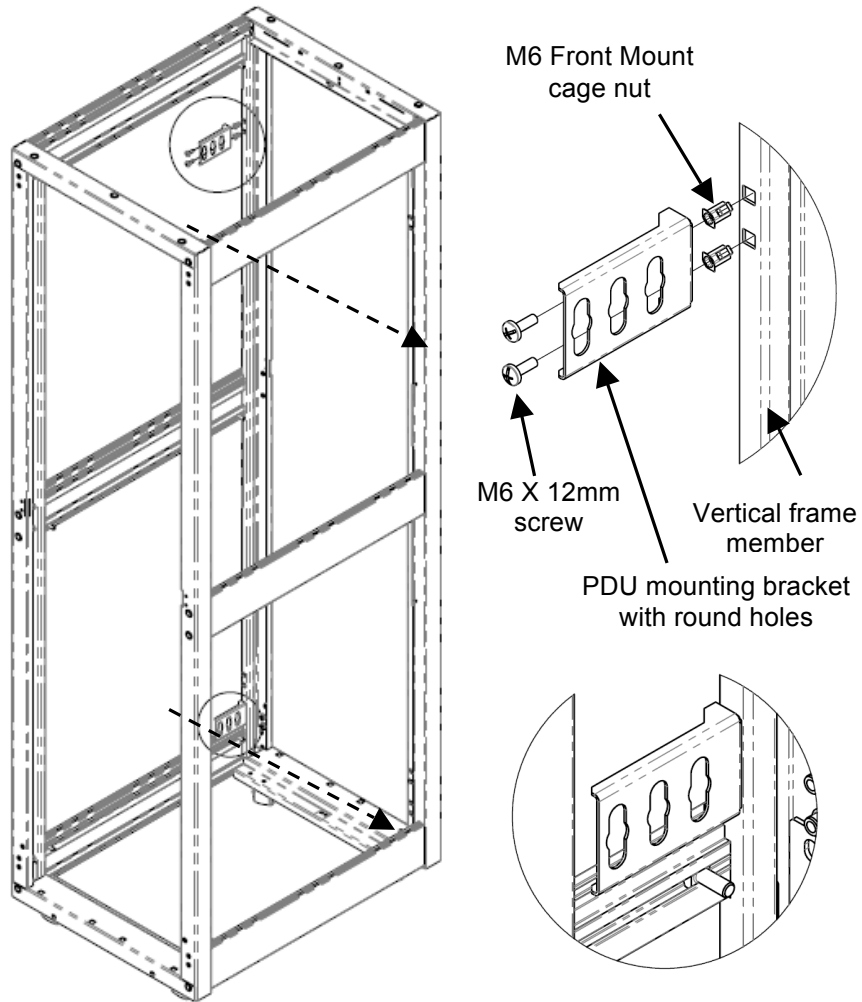

Fig. 2
Push cage nut into square hole, and rotate 1/8th turn to lock (see Fig. 2).
3. Position PDU bracket on vertical frame member (Fig. 2).
5. Repeat above steps for second PDU bracket (Fig. 2)